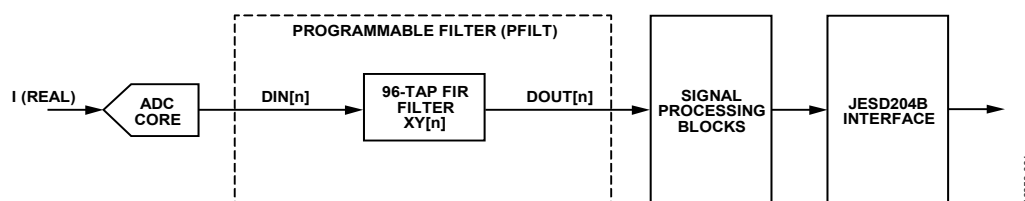

Figure 68. Real 96-Tap Filter Configuration
- Real 96-tap filter (see Figure 68)